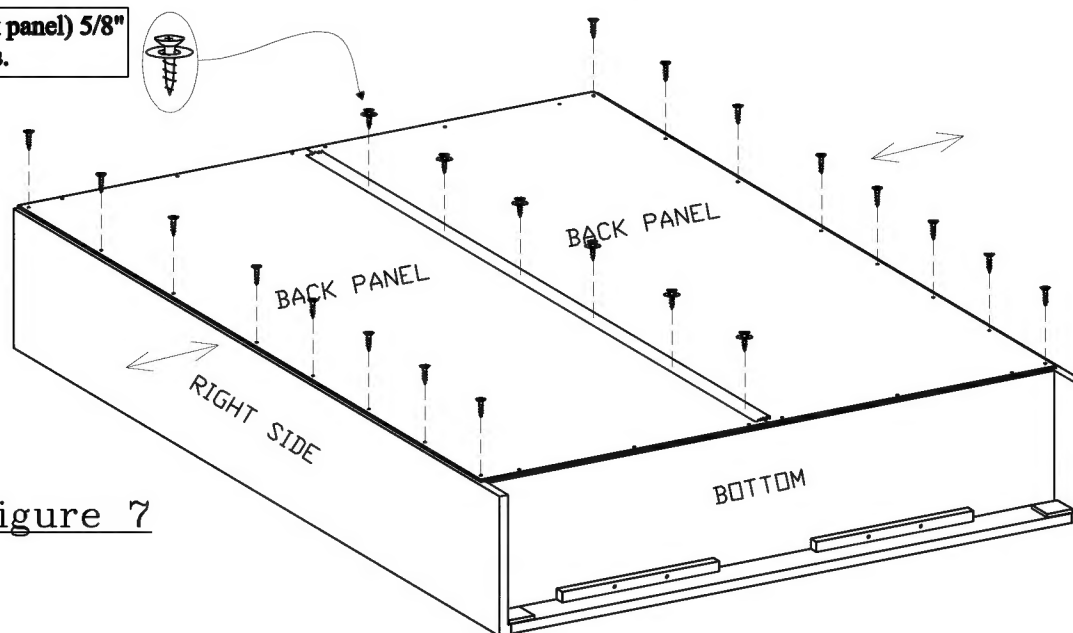

Figure 7
Step 26. The edges of the SIDE PANELS must be parallel with the edges of the BACK PANEL. If necessary, slightly push the SIDE PANELS in or out, in order to ensure an equal amount of space along the edges. See Figure 7.
Step 27. Insert and screw 8 screws along each side edge of the BACK PANEL. See Figure 7.
Step 28. Insert and screw 6 screws with washers along the tape. See Figure 7.